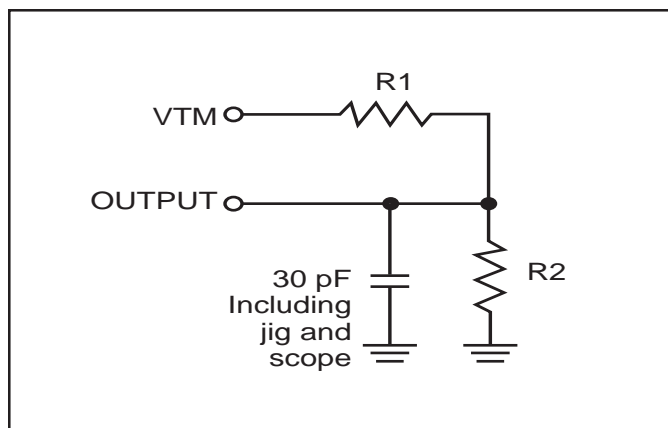

Figure 1
- Test conditions assume signal transition times of 5 ns or less, timing reference levels of 0.9V/1.5V, input pulse levels of 0.4 to VDD-0.2V/0.4V to VDD-0.3V and output loading specified in Figure 1.
1. Test conditions assume signal transition times of 5 ns or less, timing reference levels of 0.9V/1.5V, input pulse levels of 0.4 to  $V_{DD}-0.2V/0.4V$  to  $V_{DD}-0.3V$  and output loading specified in Figure 1.